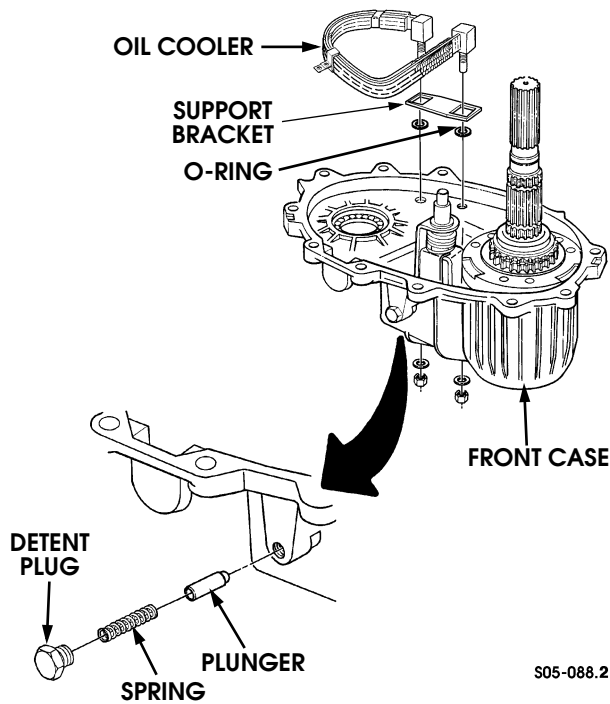

Figure 5-95: Oil Cooler and Detent Plug, Spring, Plunger Removal
16. Remove detent plug, spring, and plunger (Figure 5-95).
17. Remove oil cooler attaching nuts and washers. Then remove cooler, support bracket and O-rings (Figure 5-95).